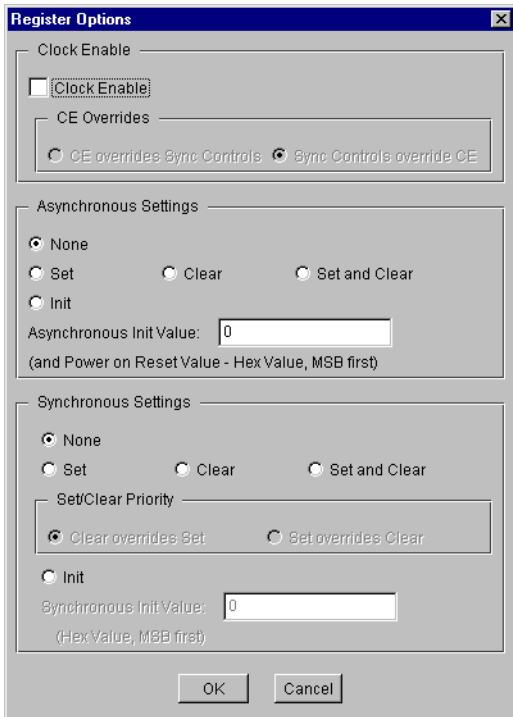

Figure 2: Binary Decoder Register Options Parameter-
- **Register Options:** This button is only enabled when a registered output has been requested via the **Output Options**. Clicking on this button brings up the Register Options parameterization screen (see Figure 2).
The Register Options parameterization screen for this module is shown in Figure 2. The parameters are as follows: